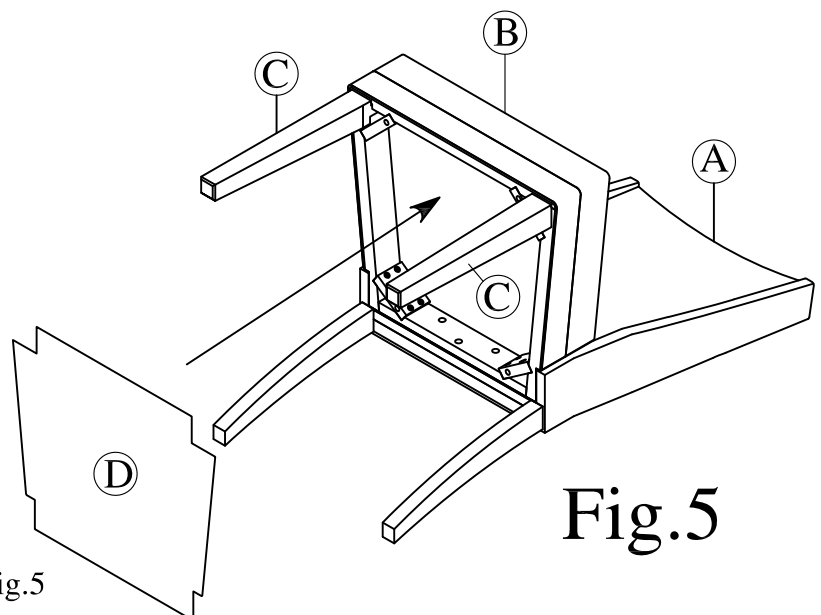

Fig.5
Step 5: Attache Velcro (D) under Cushion Seat (B) as shown in Fig.5